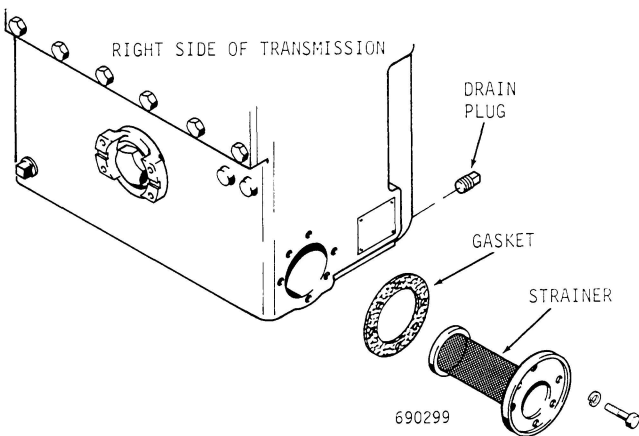

Figure 8
**TRANSMISSION OIL STRAINER - Figure 8.** Remove drain plug and strainer and gasket. Discard gasket. Clean the strainer in cleaning solvent. **NOTE:** Do not install drain plug and strainer until the oil filter and breather have been serviced. This procedure is recommended to allow maximum oil drainage.